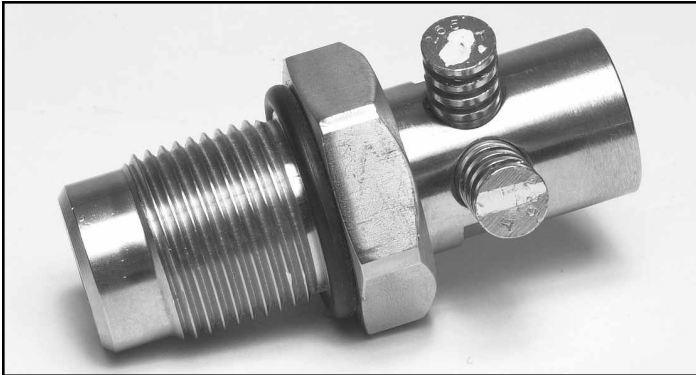

Figure 6-8 Pressure Relief Device (PRD)
4. For PRDs equipped with external thermal triggers (see Figure 6-8), examine triggers for partial actuation. If the trigger has been partially actuated, there is an extrusion of the eutectic on the top of the trigger through the white marking. This may be evidence that the tank has been subjected to extreme temperatures.